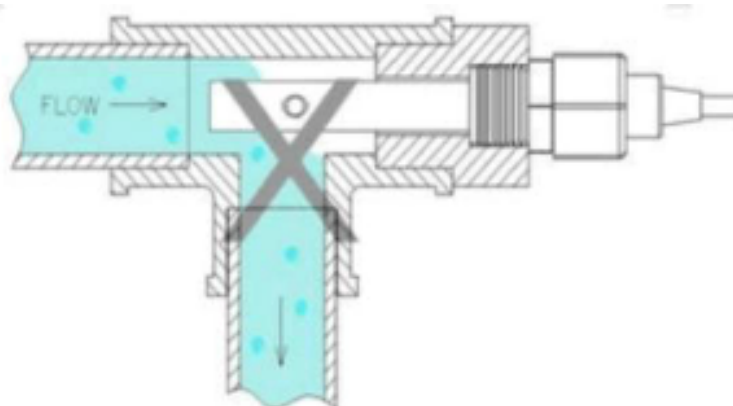

Figure 3 Downward flow forms gas chamber at high places
- c. Figure 3 installation method is wrong because the water flow can not guarantee the full pipe, the sinking water flow forms the high place to accumulate air, destroying the measurement conditions.